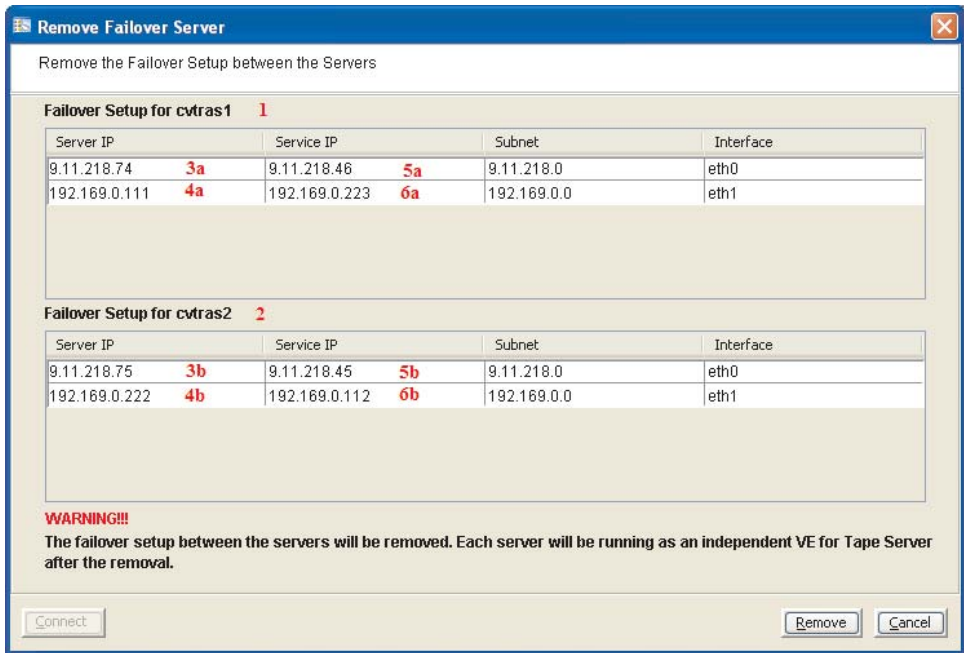

Figure 15. Removing Failover Server
2. At the remove failover server screen, perform the following substeps (see Figure 15 on page 28):
- a. \_\_\_ Record the lower server's hostname (**1** in Figure 15 on page 28) in row **1** of Table 1 on page 28.
- b. \_\_\_ Record the upper server's hostname (**2** in Figure 15 on page 28) in row **1** of Table 1 on page 28.
- c. \_\_\_ Record the lower server's Adapter 1 (eth0) network interface IP address (**3a** in Figure 15 on page 28) in row **2** of Table 1 on page 28.
- d. \_\_\_ Record the upper server's Adapter 1 (eth0) network interface IP address (**3b** in Figure 15 on page 28) in row **2** of Table 1 on page 28.
- e. \_\_\_ Record the lower server's Adapter 2 (eth1) network interface IP address (**4a** in Figure 15 on page 28) in row **3** of Table 1 on page 28.
- f. \_\_\_ Record the upper server's Adapter 2 (eth1) network interface IP address (**4b** in Figure 15 on page 28) in row **3** of Table 1 on page 28.
- g. \_\_\_ Record the lower server's Adapter 1 (eth0) service interface IP address (**5a** in Figure 15 on page 28) in row **4** of Table 1 on page 28.
- h. \_\_\_ Record the upper server's Adapter 1 (eth0) service interface IP address (**5b** in Figure 15 on page 28) in row **4** of Table 1 on page 28.
- i. \_\_\_ Record the lower server's Adapter 2 (eth1) service interface IP address (**6a** in Figure 15 on page 28) in row **5** of Table 1 on page 28.
- j. \_\_\_ Record the upper server's Adapter 2 (eth1) service interface IP address (**6b** in Figure 15 on page 28) in row **5** of Table 1 on page 28.
- Once Table 1 has been filled out, click **Remove**. Refer to Figure 15.